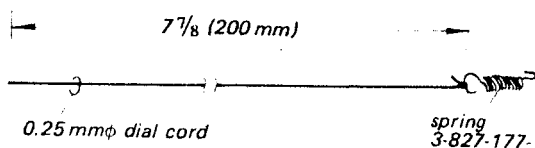

Fig. 2-23 Band-selector dial cord
1. Tie one end of the cord prepared as specified in Fig. 2-23 to the spring.